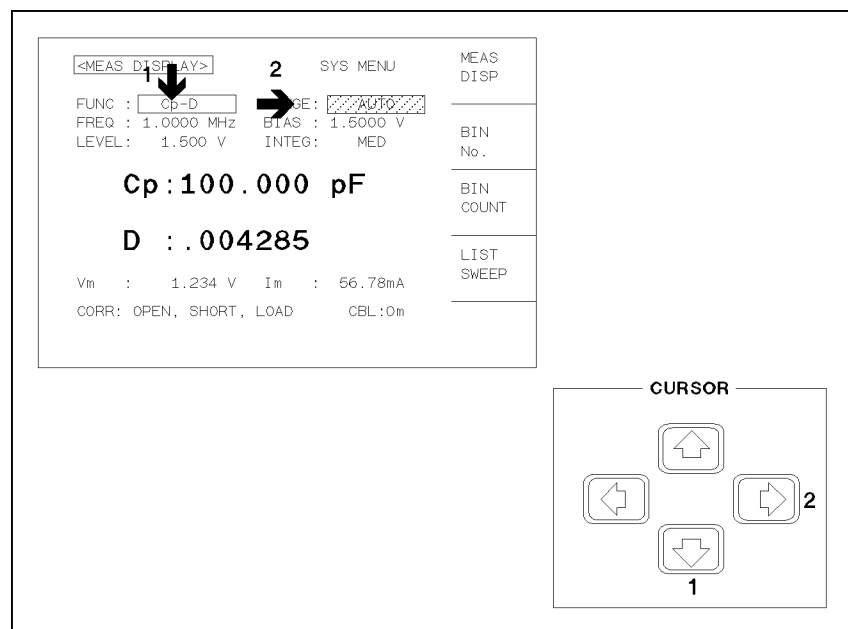

Figure 2-4. CURSOR Keys and Field Operation Example
2. Use the CURSOR keys to move the CURSOR to the field to be used. The CURSOR will be an inverse video marker, and the field is an area to which you can set the CURSOR. (Refer to Figure 2-4)